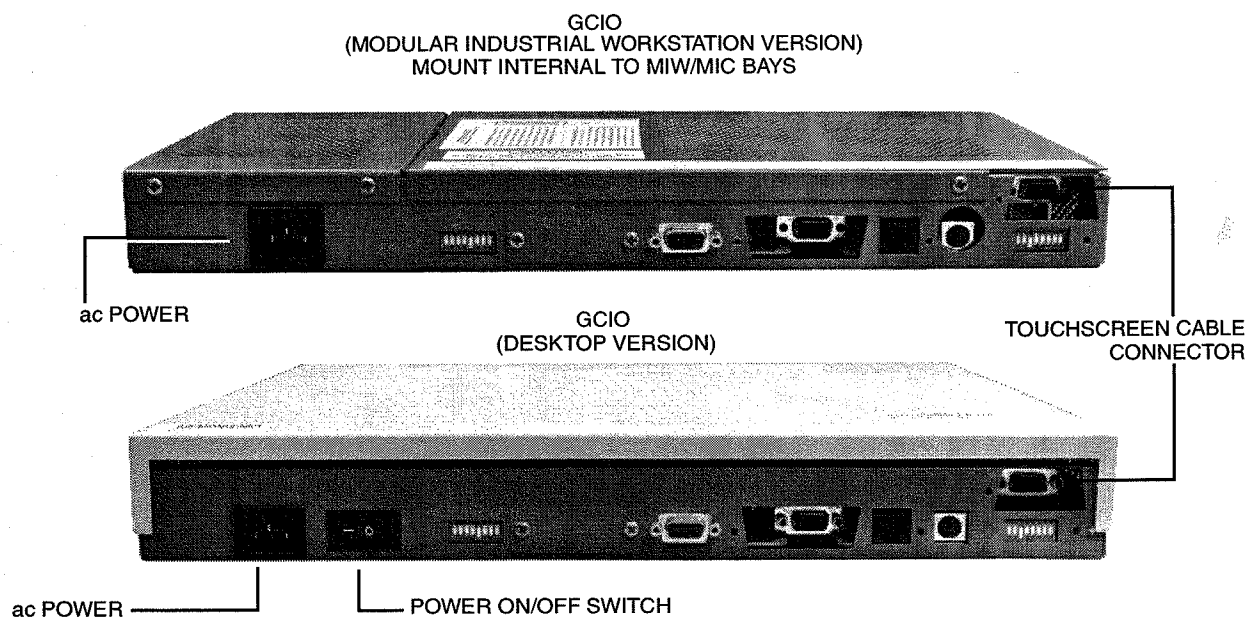
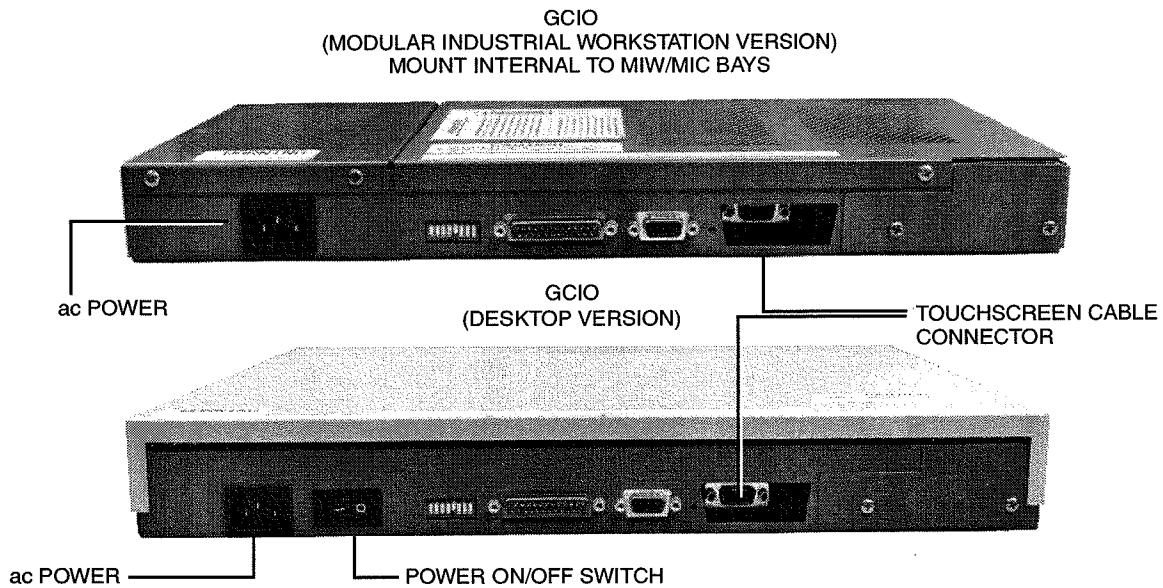

Figure 1. WP10/WP20/WP30 GCIO Units
Figure 2. 50 Series/70 Series GCIO Units
- ◆ WP10/WP20/WP30 type (see Figure 1)
- ◆ 50 Series/70 Series (see Figure 2).
1. Power down the GCIO(s) by positioning the GCIO Power switch (if present) to OFF, and removing the ac power cable (see Figure 1 and Figure 2).
3. For WP10/20/30 types of GCIOs (see Figure 1), remove the GCIO from the MIW bay.
12. Attach the touchscreen cable to the touchscreen cable connector (see Figure 1 and Figure 2) in the GCIO, and to the 21-inch monitor.